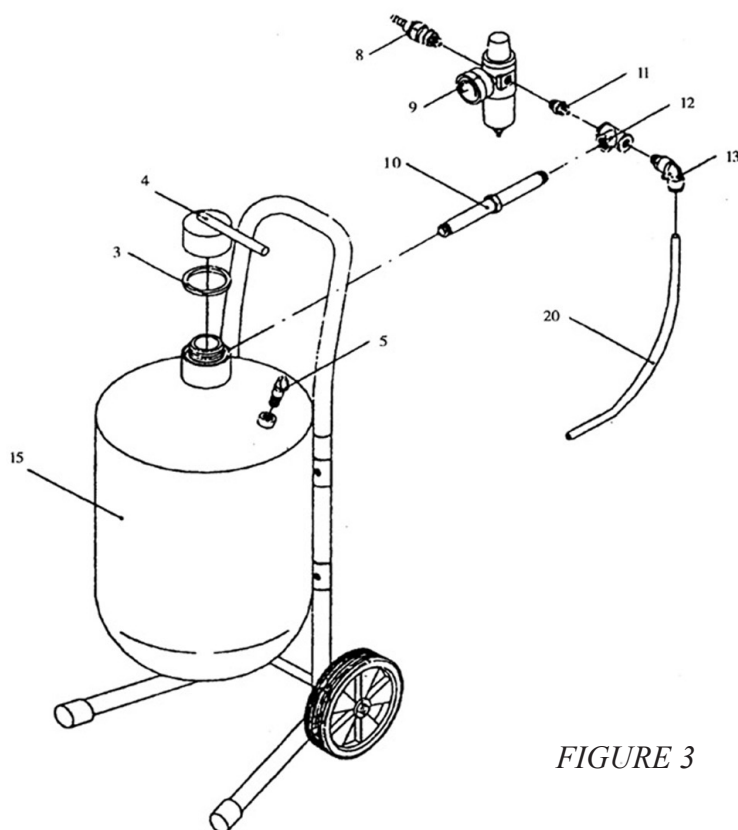

FIGURE 3
Air pressure adjuster and Safety Valve Assembly (Refer to Fig. 3)
1. Attach the connector (#8) to one of the side inlets of the air pressure adjuster (#9). Attach the intake manifold (#12) to the other side of the nipple connector (#11). Make sure the pressure gauge on the air pressure adjuster and the front inlet of the intake manifold face the same direction, as in figure 3.